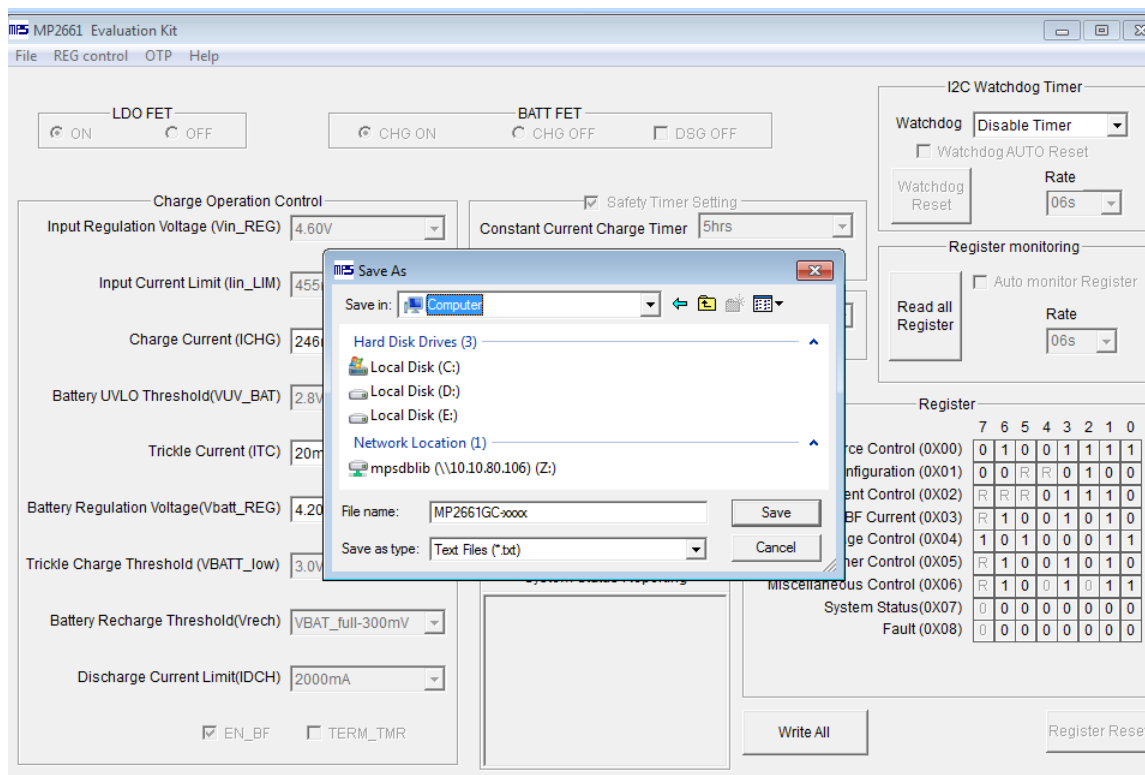

Figure 11: Various Export Locations Available
- Find a location for the exported file and click “Save”. Your configurations will be saved in a text file (see Figure 11).